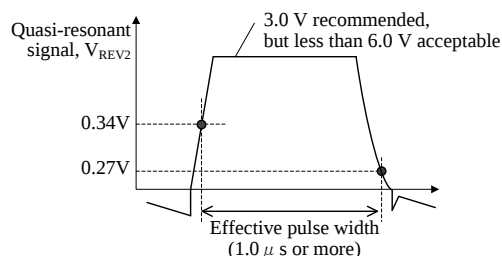

Figure 9-12 The effective pulse width of quasi-resonant signal
- The effective pulse width of quasi-resonant signal is 1.0 μ s or more (refer to Figure 9-12)
power supply specification, $V_{REV2} < 6.0$ V (Absolute maximum rating of the BD pin) and the effective pulse width of quasi-resonant signal is 1.0 μ s or more (refer to Figure 9-12).